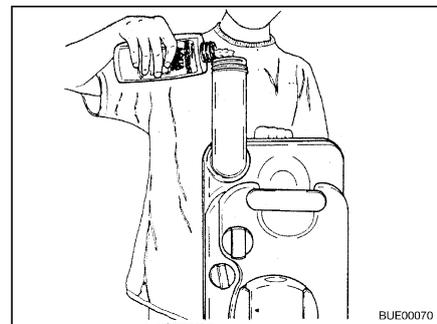

Fig. 190 Filling with sanitary liquid
- Fill the stated amount of sanitary liquid into the sewage tank (Fig. 190).